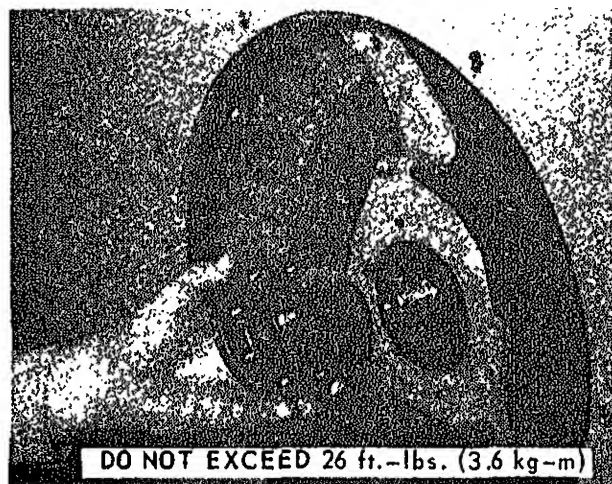

FIGURE 10-5.
g. Next Install brake hub, rubber seal, washer and slotted nut (see figure 10-5). Tighten slotted nut to remove end play. Back off one (1) flat (.012 in. - .305 mm loose). **DO NOT EXCEED 26 FT.-LBS. TORQUE.** Secure with cotter pin